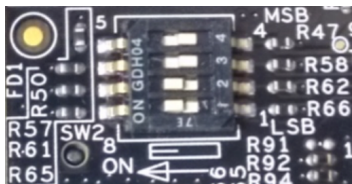

Figure 4: BOOT MODE switch
- Switch SW2 to OFF, OFF, ON, ON, OFF, OFF (from 1-6 bit) to boot from the SD card, as shown in Figure 4.